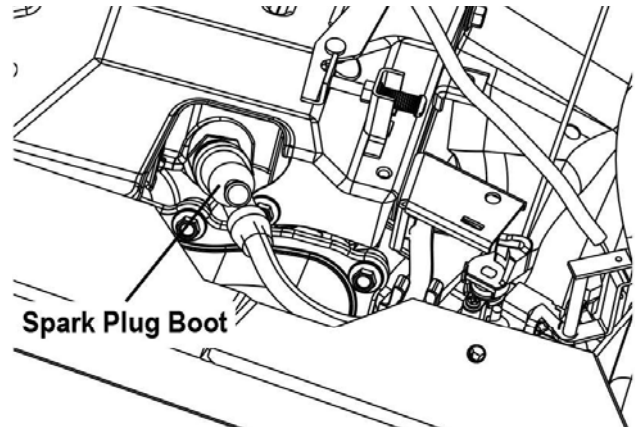

Figure 4-3: Remove Spark Plug Wire
3. Remove the spark plug wire off of the plug and clean that area of the cylinder head (Figure 4-3).